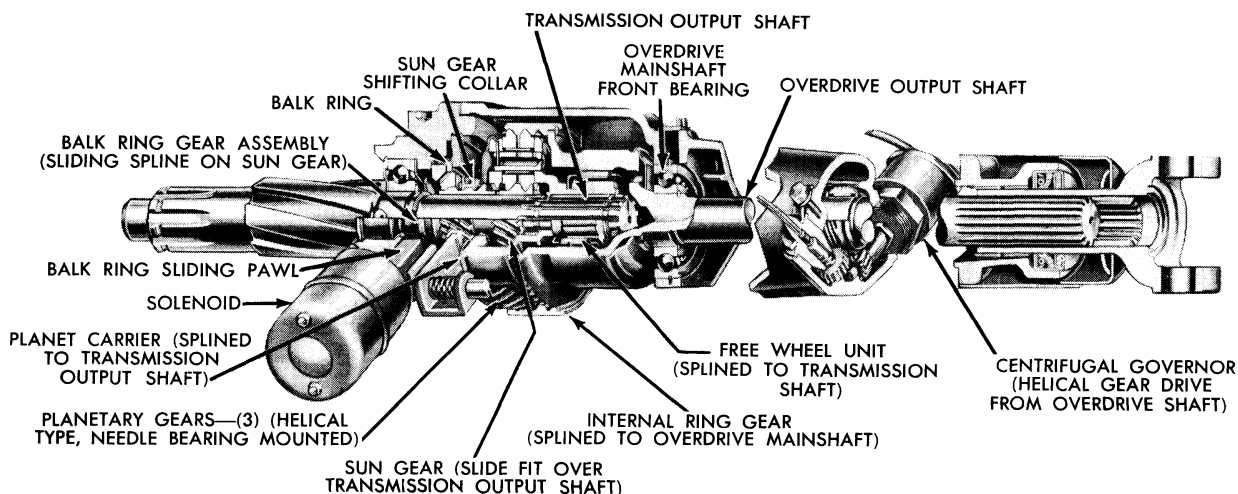

Fig. 19—Overdrive Assembly—Cutaway View
(1) **OVERDRIVE UNIT MECHANICAL OPERATION.** The sun gear (figs. 19 and 20) is a slip-fit over the transmission output shaft and is the controlling unit